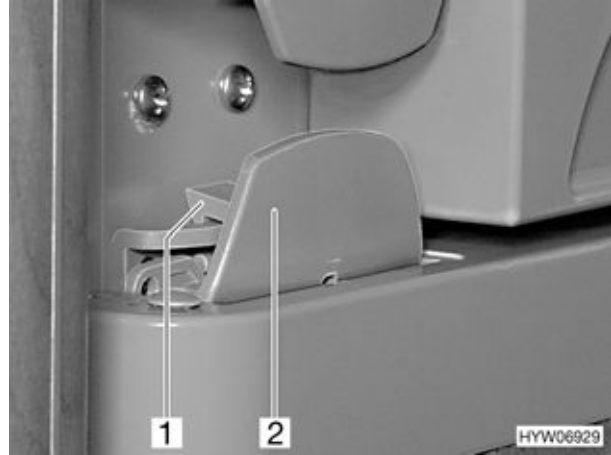

Fig. 151 Refrigerator door lock, closed (variant 2)
- Open the refrigerator door at the handle (Fig. 151,2). The lock (Fig. 151,1) is released automatically.